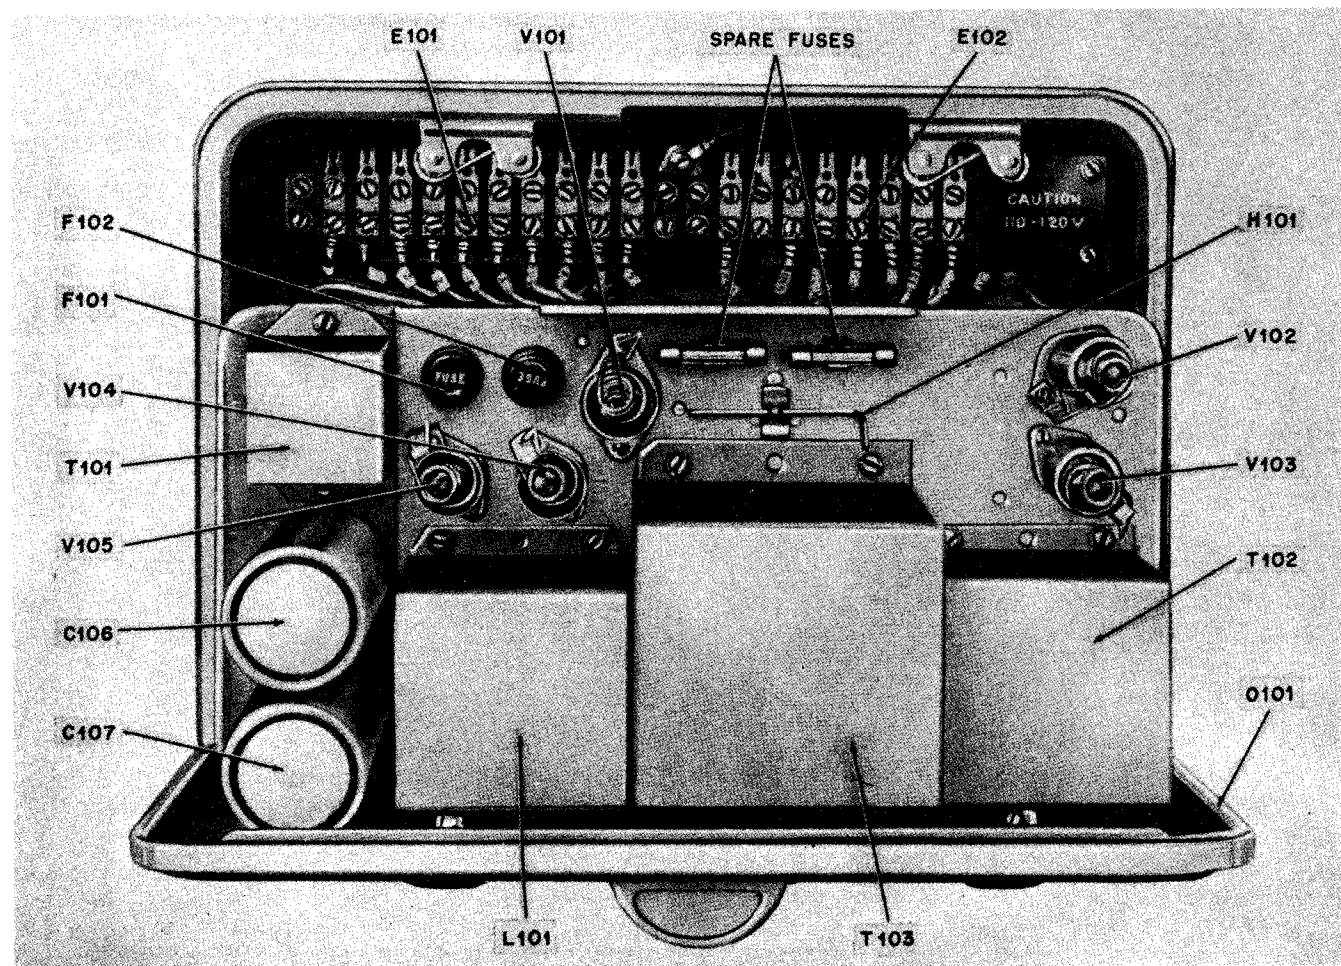

Figure 7-2. A.F. Amplifier AM-215B/U, Inside Top View
c. The location of all parts in top and bottom views of A.F. Amplifier AM-215B/U are shown by figures 7-2 and 7-3. The schematic diagram of the A.F. Amplifier AM-215B/U is given in figure 7-4, and its practical wiring diagram by figure 7-5. Tube operating voltage and current, are given in Table 7-2. Tube characteristics data will be found in Table 7-3. Data covering operating voltages and non-operating resistances are listed in Table 7-4. In Tables 7-5 and 7-6 will be found information concerning transformer and reactor coil resistances and windings. All this information should be thoroughly studied before any corrective maintenance work is started. The parts list and applicable color codes given in Section 8 should also be consulted before corrective maintenance is undertaken.